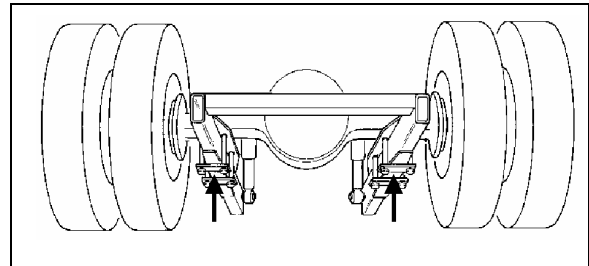

FIGURE 6: JACKING POINTS ON DRIVE AXLE
8. Install jacks under the axle jacking points to support the axle weight (refer to figure 6).